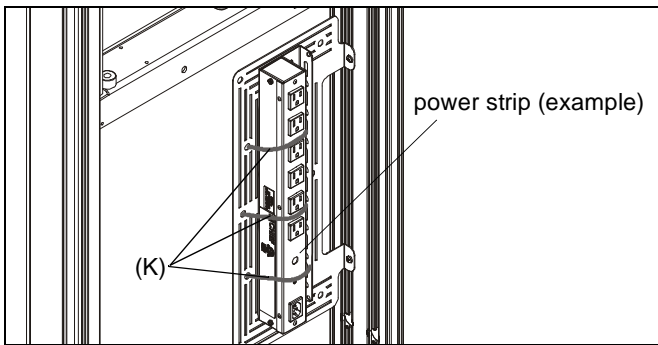

Figure 12
**WARNING:** Exceeding the weight capacity can result in serious personal injury or damage to equipment! It is the installer's responsibility to make sure the combined weight of all accessories and components installed to the component bracket (C) does not exceed 10 lbs (4.54 kg). Exceeding the weight capacity may result in damage to the equipment or components!
5. Install components to component bracket as desired using cable ties (K) or screws. (See Figure 12)